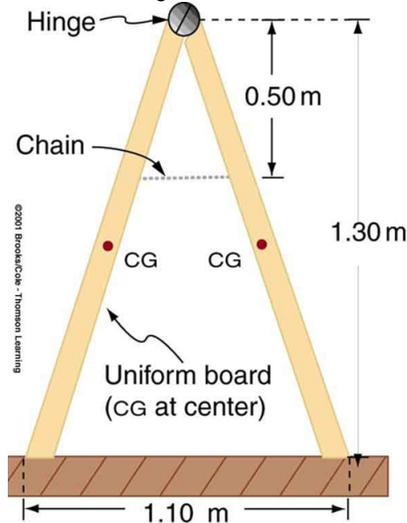

Figure 9.35 A sandwich board advertising sign demonstrates tension.
33. A sandwich board advertising sign is constructed as shown in **Figure 9.35**. The sign's mass is 8.00 kg. (a) Calculate the tension in the chain assuming no friction between the legs and the sidewalk. (b) What force is exerted by each side on the hinge?
34. (a) What minimum coefficient of friction is needed between the legs and the ground to keep the sign in **Figure 9.35** in the position shown if the chain breaks? (b) What force is exerted by each side on the hinge?